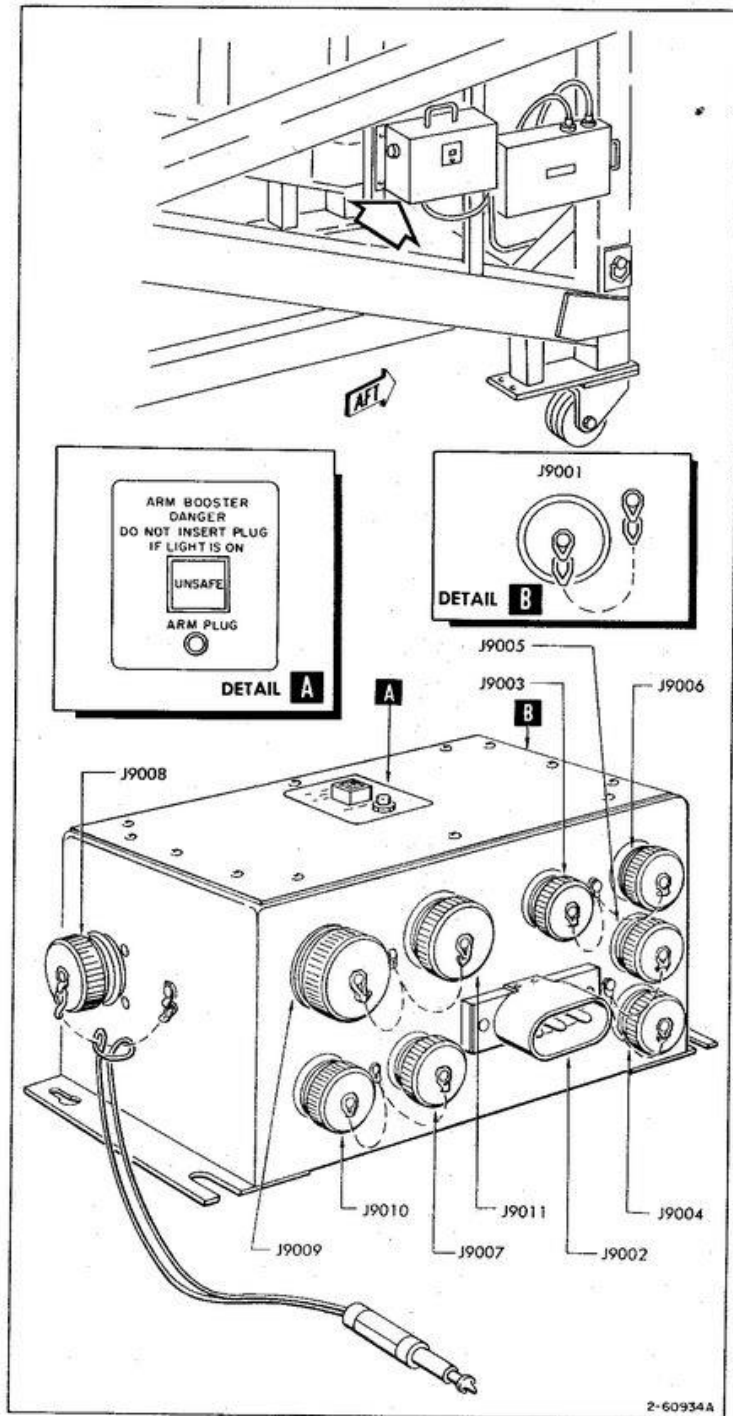

Figure 3-2. Umbilical Outlet Box
- a. Install Umbilical Outlet Box (figure 3-2) on UOB brackets aft on left side of Launcher.